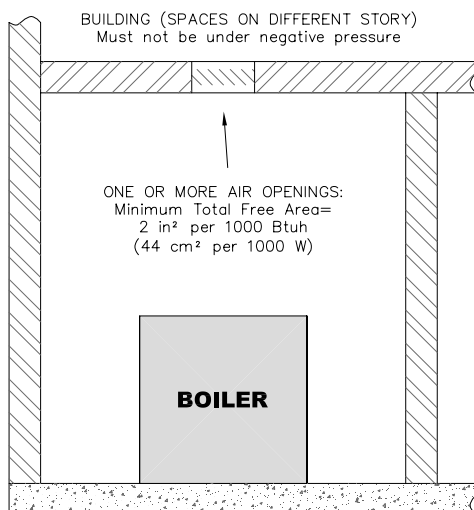

Figure 1.3: Air Openings – All Air from Indoors on Different Floors
- b. **Combining spaces on different floors:** Provide one or more permanent openings communicating with additional spaces that have a total minimum free area of 2 in2 per 1000 Btu/hr (44 cm2 per 1000 W) of total input rating of all equipment. See Figure 1.3 for an illustration of this arrangement.